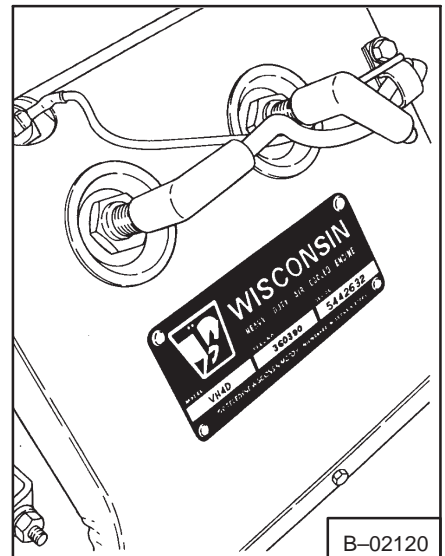

Fig. 1-2 Engine Serial Number (720)
**720 Wisconsin:** (Fig. 1-2) The engine serial number location is on the engine shroud on the left side of engine. Use all numbers when ordering parts for this engine.